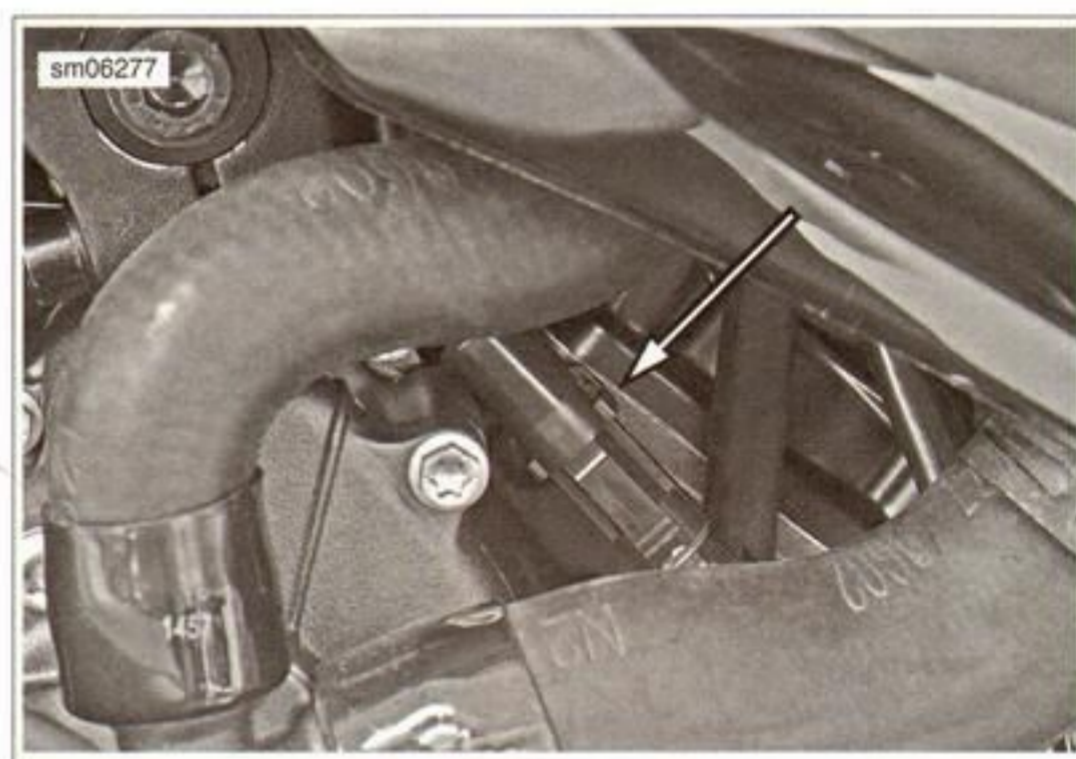

Figure 4-17. Rear O2 Sensor Connector [137]
- See Figure 4-17. Lift the latch on the oxygen sensor connector [137] and separate the housings.